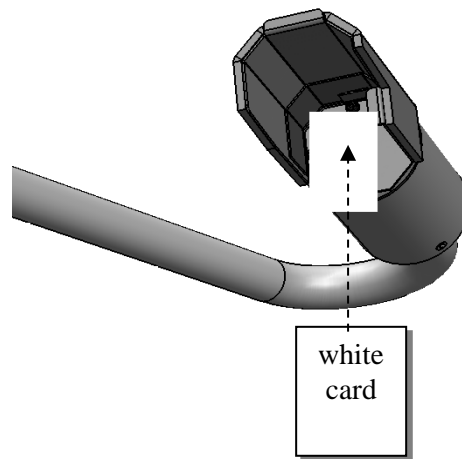

Figure 4-1 Transmitter hood with white card
- Step 4.** Insert a white card (or paper) in the transmitter hood that blocks and almost touches the window (see Figure 4-1 Transmitter hood with white card).